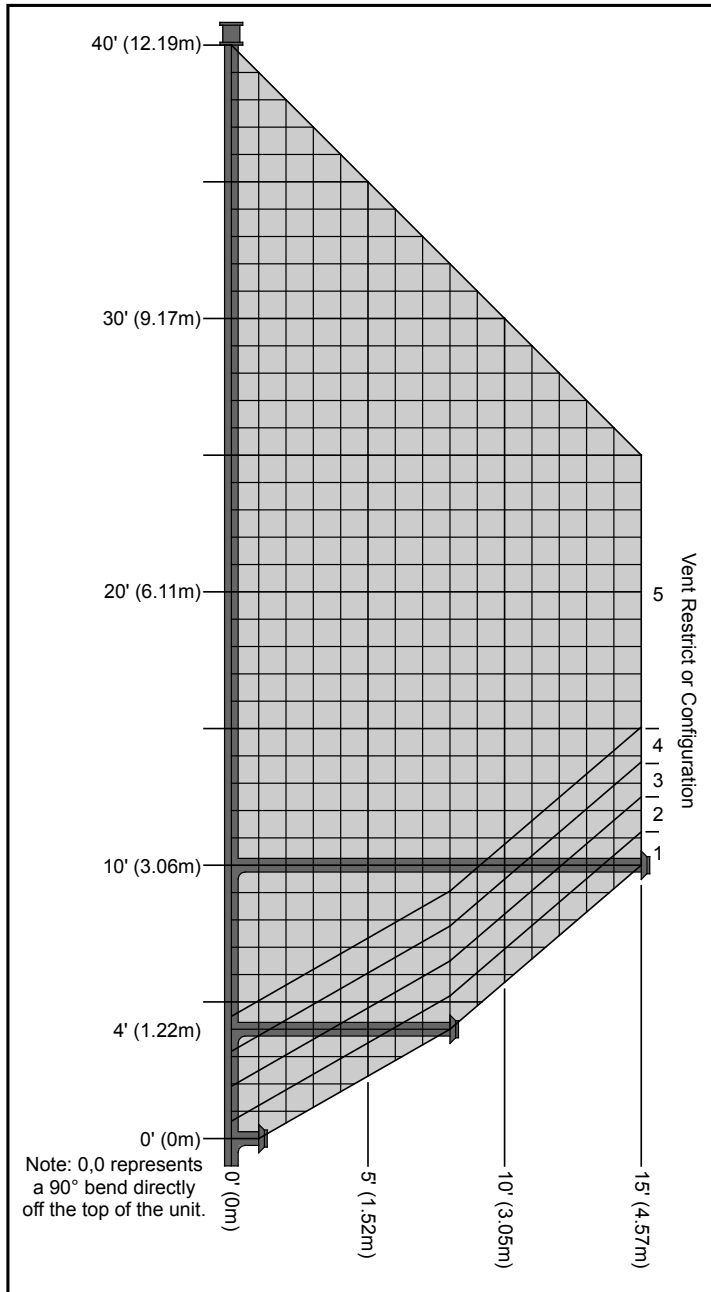
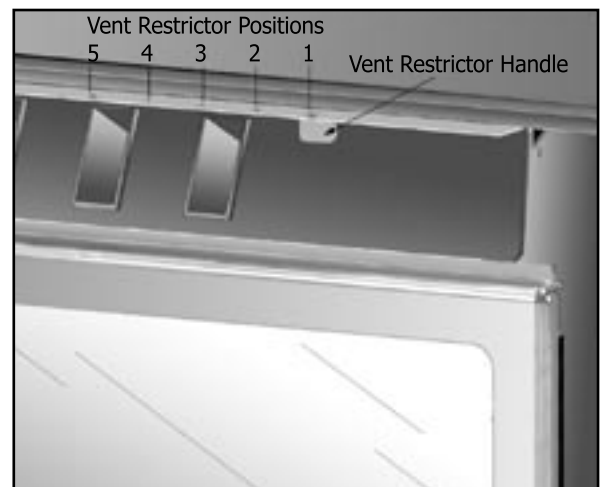

Figure 23. Possible Vent Configurations
Figure 24. Possible Vent Restrictor Positions
4. Frame the hole as shown in Figure 24.
5. Trim the wall thimble to match the wall thickness as necessary. Install the wall thimble and secure it to the inner wall frame using four (4) 1½" wood screws. If a wall is greater than 8" (203mm) in depth, the clearance above the flex must be 4³/₈" (111mm)
Figure 23 shows the range of venting options, it shows possible vent configurations if the unit is top vented, for vertical and horizontal terminations, any layout that remains within the shaded area is acceptable. Having the fewest number of elbows is ideal, as they tend to disrupt air movement. Using 45° elbows is preferable to using 90° elbows. Also, a shorter vent system will perform better than a longer one.
The vent restrictor controls the amount of air moving through the vent pipe. Longer vertical vent lengths necessitate greater restriction; position 1 is open and position 5 is maximum restriction. Figure 23 shows the vent restrictor settings required, relative to the length of vent pipe. The vent restrictor is located on the right side of the fireplace, above the glass. Figure 24 shows the vent restrictor handle and the holes that indicate the different levels. To avoid injury, it is best to make this adjustment when the fireplace is cool or use welder's gloves or oven mitts.
Note: 0,0 in Figure 23 represents a 90° bend directly off the outlet of the unit, 46" (1169 mm) from floor. This is for all horizontal instances **except** when using Selkirk and having less than a 4 feet (1.22 m) rise and 8 feet (2.44 m) horizontal offset. In this case, a 1 foot rise must be added below the 90° bend.